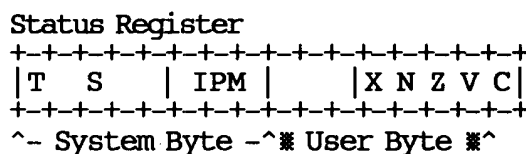

figure 1
In this article we will be referring to some things that were discussed in the last article such as the Status Register (SR) and the Interrupt Stack Pointer (ISP). For quick reference, the Status Register is reproduced in figure 1.
production, figure 1). If it is an interrupt, the IPM is updated with the IPL of the requesting device. It then pushes a block of data onto the Interrupt Stack (IStack) called a Stack Frame. This operation is done in hardware and it greatly simplifies programming of system software. There are a number of different formats but the last 6 bytes left on the top of the stack are always the same. The PC (Program Counter) and the saved copy of the SR are shown in figure 2.